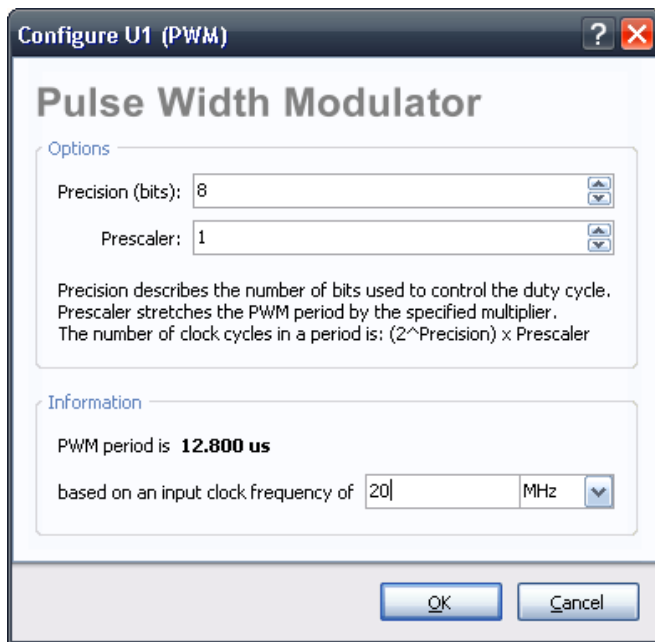

Figure 2. Configuration of the Pulse Width Modulator.
7. then click the **Configure** button on the lower left of the *Component Properties* dialog and confirm that the Pulse Width Modulator is configured as shown in Figure 2, with a base frequency of 20 MHz. This will mean each LED output has a pulse-width-modulated square wave of 78.125 KHz.